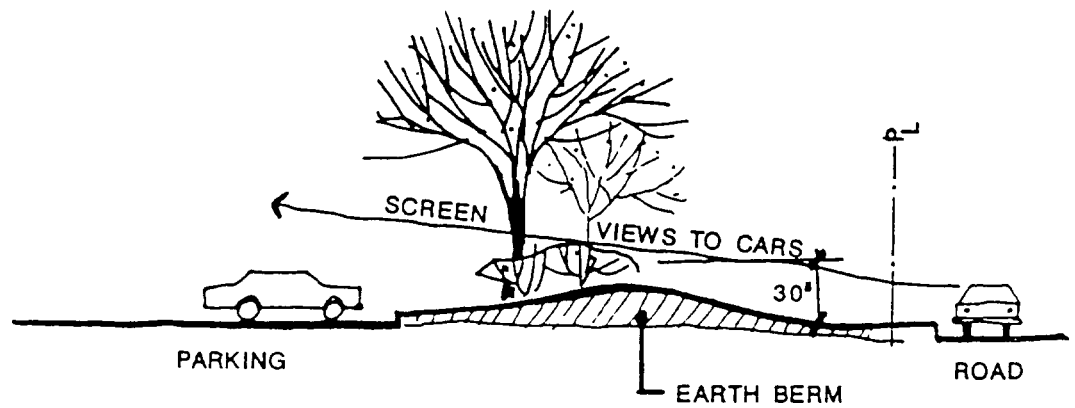

FIGURE 12
- Landscape screens (typically 18" to 36" in height) should be provided between all parking areas and streets. (See Figure 12.)